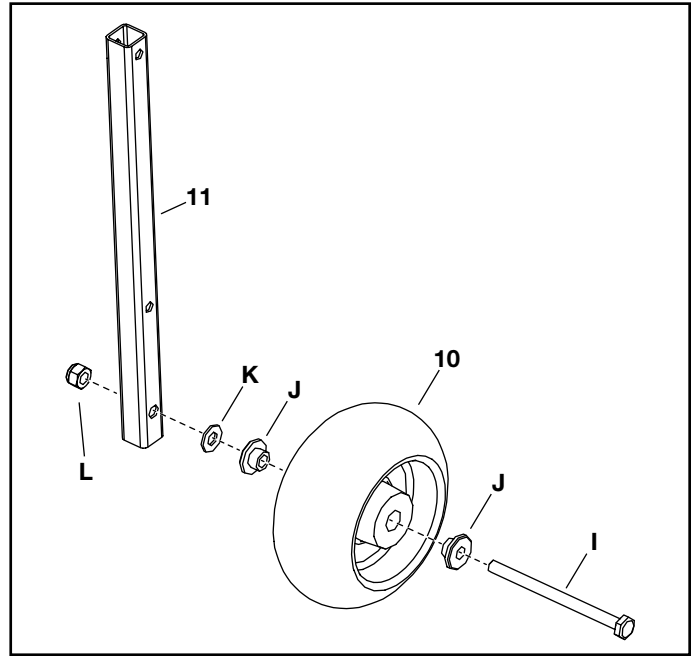

FIGURE 9
STEP 9: (SEE FIGURE 9)
- Attach the wheel (10) to the bottom hole in a wheel support (11) using a hex bolt (I), two step bushings (J), a washer (K), and a hex nut (L).